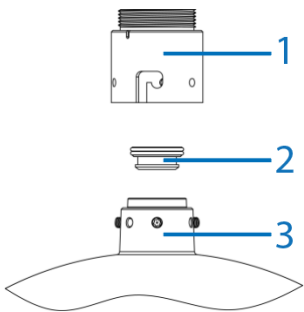

Figure 7
- Securely place the rubber cable seal (2) (Figure 7) into the pendant cap (3) (Figure 7).
- Place the mount adaptor (1) (Figure 7) on to the NPT pendant cap (3) (Figure 7) and align the holes on the mount adaptor with the holes on the NPT pendant cap.